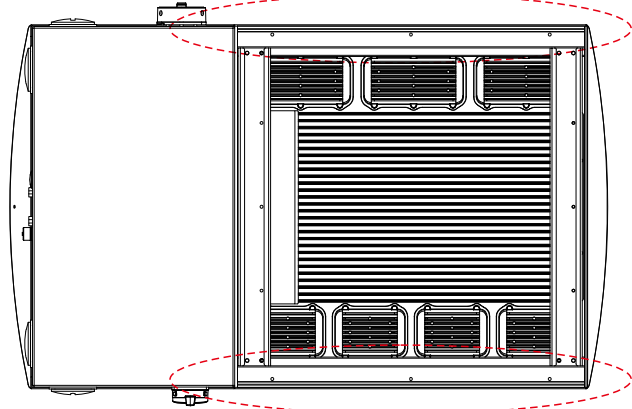

Figure 3.3 Handles shown circled in red are used to remove the inverter from the shipping box
- 2).Two people are required to remove the inverter from the shipping box. Use the handles integrated into the heat sink to remove the inverter from the box (see Figure 3.3).